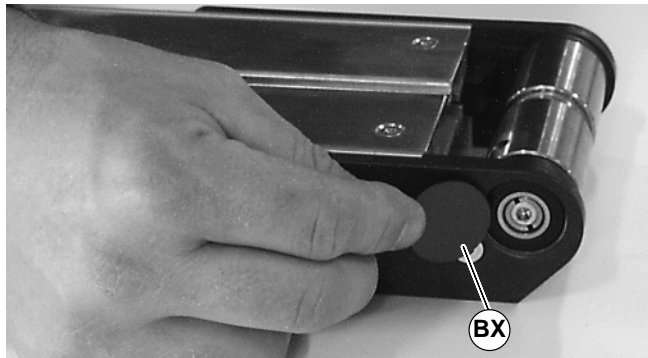

Figure 53
4. Install bearing covers (BX of Figure 53).